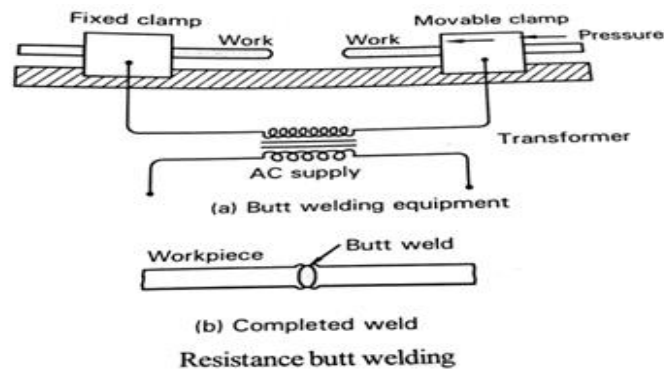

Fig. 4.7 Resistance Butt Welding
- Fig 4.7 shows resistance butt welding.